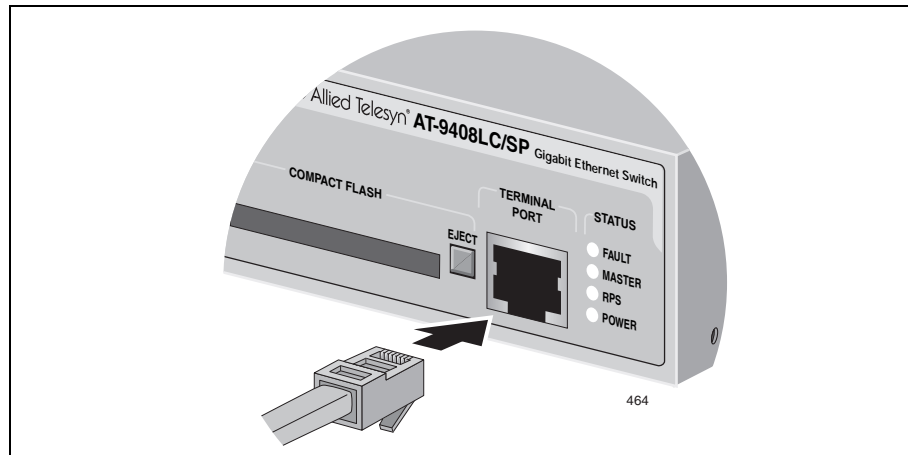

Figure 21. Connecting the Management Cable to the RJ-45 Terminal Port on the Switch
1. Connect the RJ-45 end of the management cable included with the AT-9400 Switch to the Terminal Port on the front panel of the switch, as shown in Figure 21.